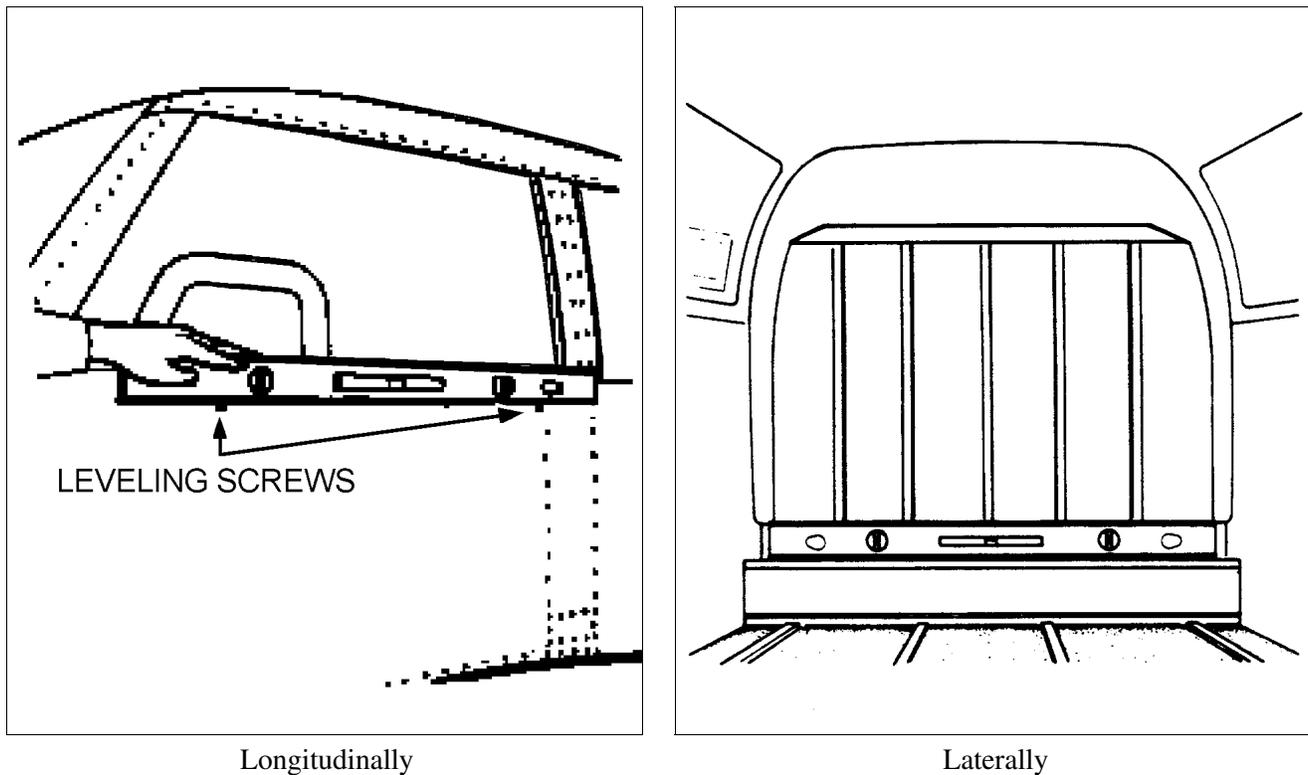

Figure 8-1. Leveling Airplane
- (1) To longitudinally level the airplane, partially withdraw the two leveling screws located immediately below the left front side window. (Refer to Figure 8-1.) Place a spirit level on these screw heads and deflate the nose wheel tire or adjust the jacks until the bubble of the level is centered.
- (2) To laterally level the airplane, place a spirit level across the baggage compartment floor along the rear bulkhead (refer to Figure 8-1) and deflate the tire on the high side of the airplane or adjust either jack until the bubble of the level is centered.